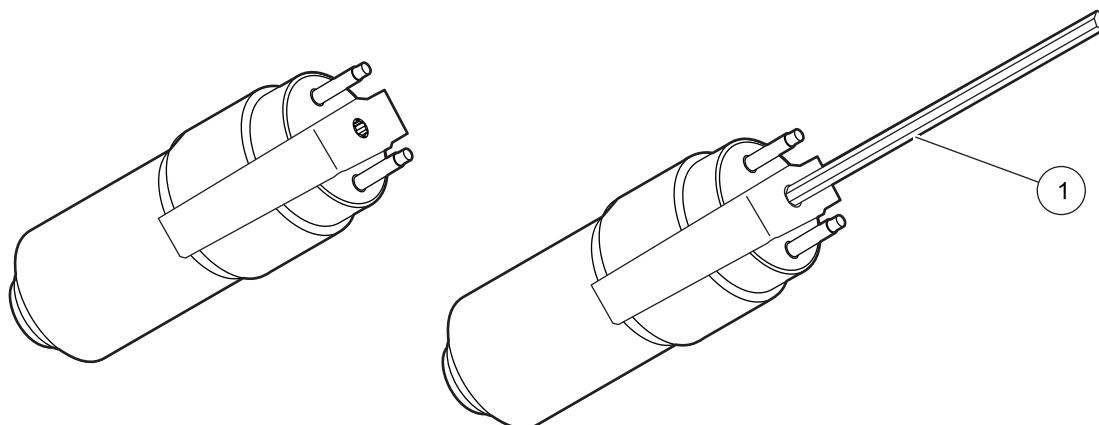

Figure 12 Loosening of the set screw
*Note: Make sure to note the attachments to the Vacuum (V) fitting and the Pressure (P) fitting.*
5. Use a 1.27 mm or 1.5 mm hex key (Allen) wrench to loosen the set screw on the bracket on top of the pump (refer to Figure 12).